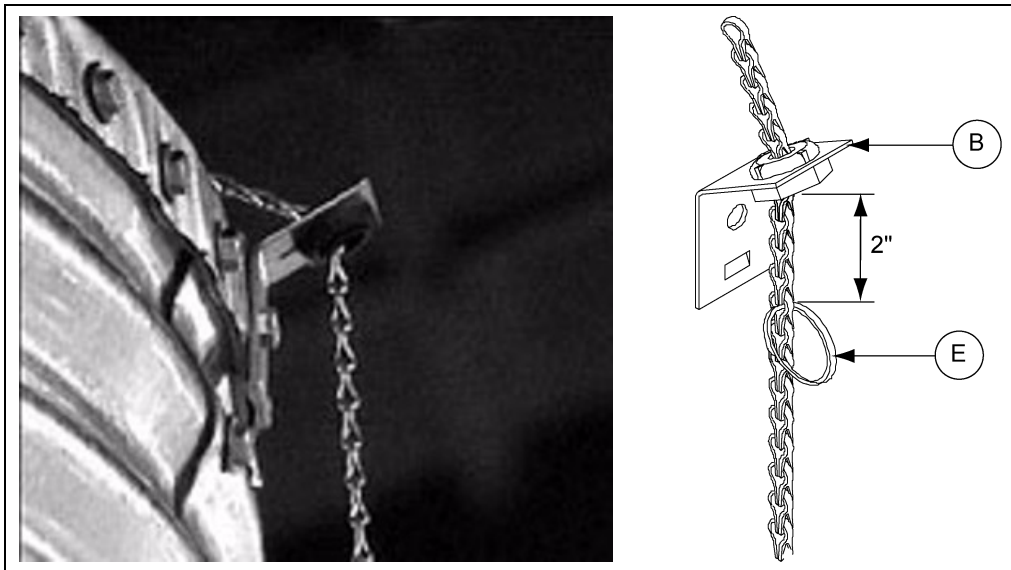
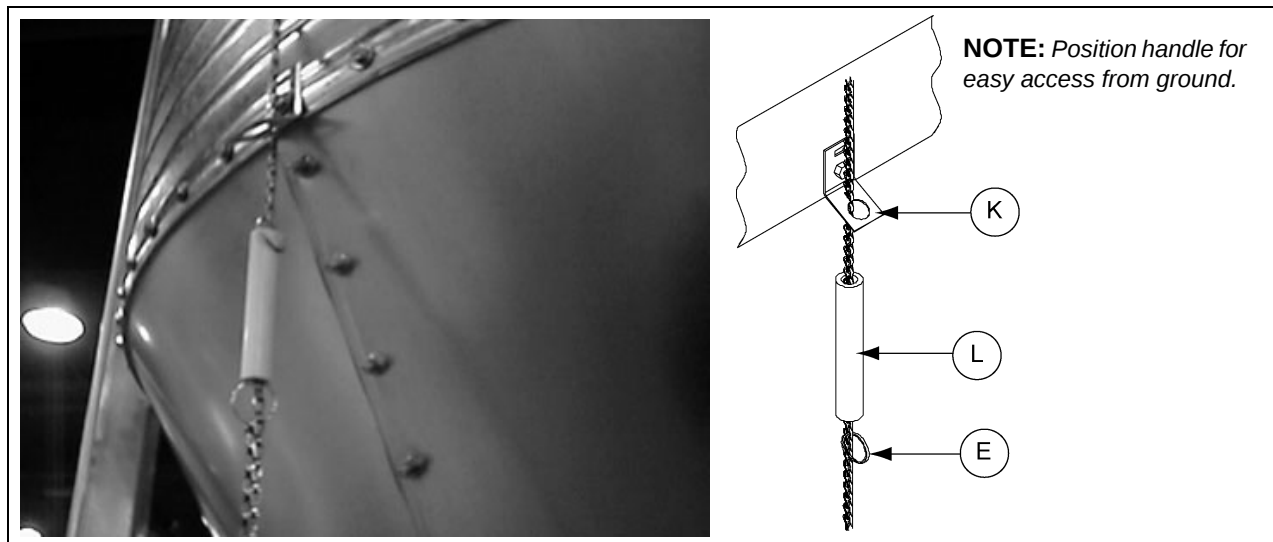

Figure 11F
Figure 11G
- Thread the existing chain through the hole on the end of the lever arm and fasten it to the provided key ring. (See Figure 11B on Page 58.) Ensure that the ground control chain is freely looped through the roof eave bracket and chain holder. After removing the slack in the chain while the lid is fully closed and in latched position, re-position the key ring 2" below the roof eave bracket. (See Figure 11F.) Re-adjust the existing handle and key ring so the handle is positioned for easy access from ground. (See Figure 11G.) Check to make sure that the key rings allow the cap to fully close, but will not allow the chain enough slack on top of the cap to become wrapped around the lever arm in a high wind condition.